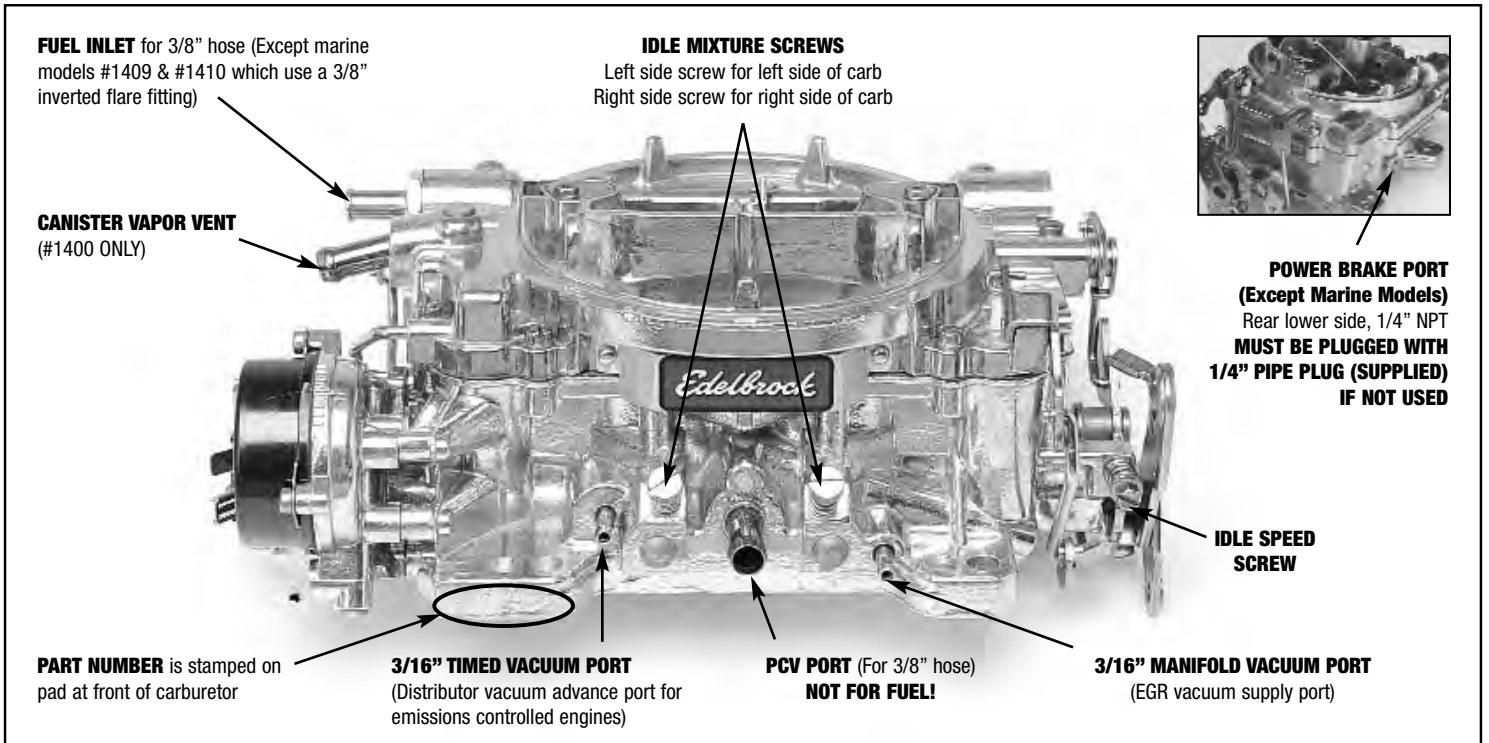

Figure 1 - Fittings and Vacuum Port Locations
2. Check and prepare carburetor for proper vacuum fitting installation (EGR, power brakes, PCV, distributor, transmission, etc.) using supplied vacuum caps, "T", and hose when applicable. Before removing old carburetor, determine if distributor vacuum advance port is "timed" (no vacuum present at idle) or "manifold vacuum" (vacuum present at idle), and use the matching vacuum port on your Edelbrock carburetor (**See Figure 1**). If vacuum port at rear of carb is not used, plug with a 1/4" pipe plug.
4. Connect all vacuum hoses to their proper location on carburetor (**See Figure 1**). Replace hoses that appear brittle or cracked.
5. Connect fuel line to carburetor (**See Figure 1**). Avoid contact with any sharp edges or areas of extreme heat. For best results, use Edelbrock in-line fuel filter #8873 and fuel line kit #8135.